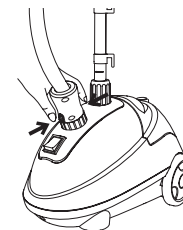

Figure 1
5. Attach the steam hose to the steamer base by inserting it into the large opening above the ON/OFF Switch. To remove the steam hose, press in the fasteners and pull the hose out of the base. (Figure 1)